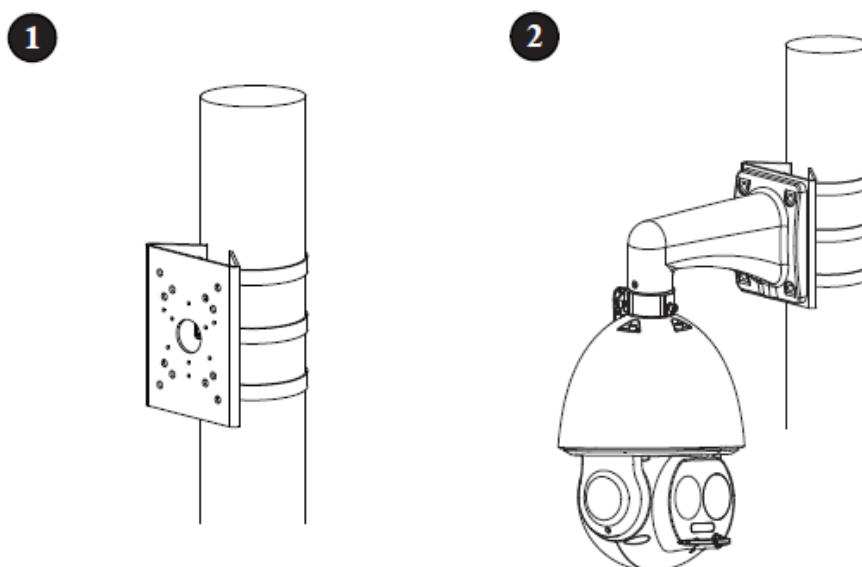

Figure 3-6
1. Fix the mounting hoop and pole-mounted bracket on the pole, and paste glass cement on it to make it sealed and waterproof, which is shown in Figure 3-6 ①.
6. Check if the speed dome is firmly installed, and then device installation is completed, which is shown in Figure 3-6 ②.